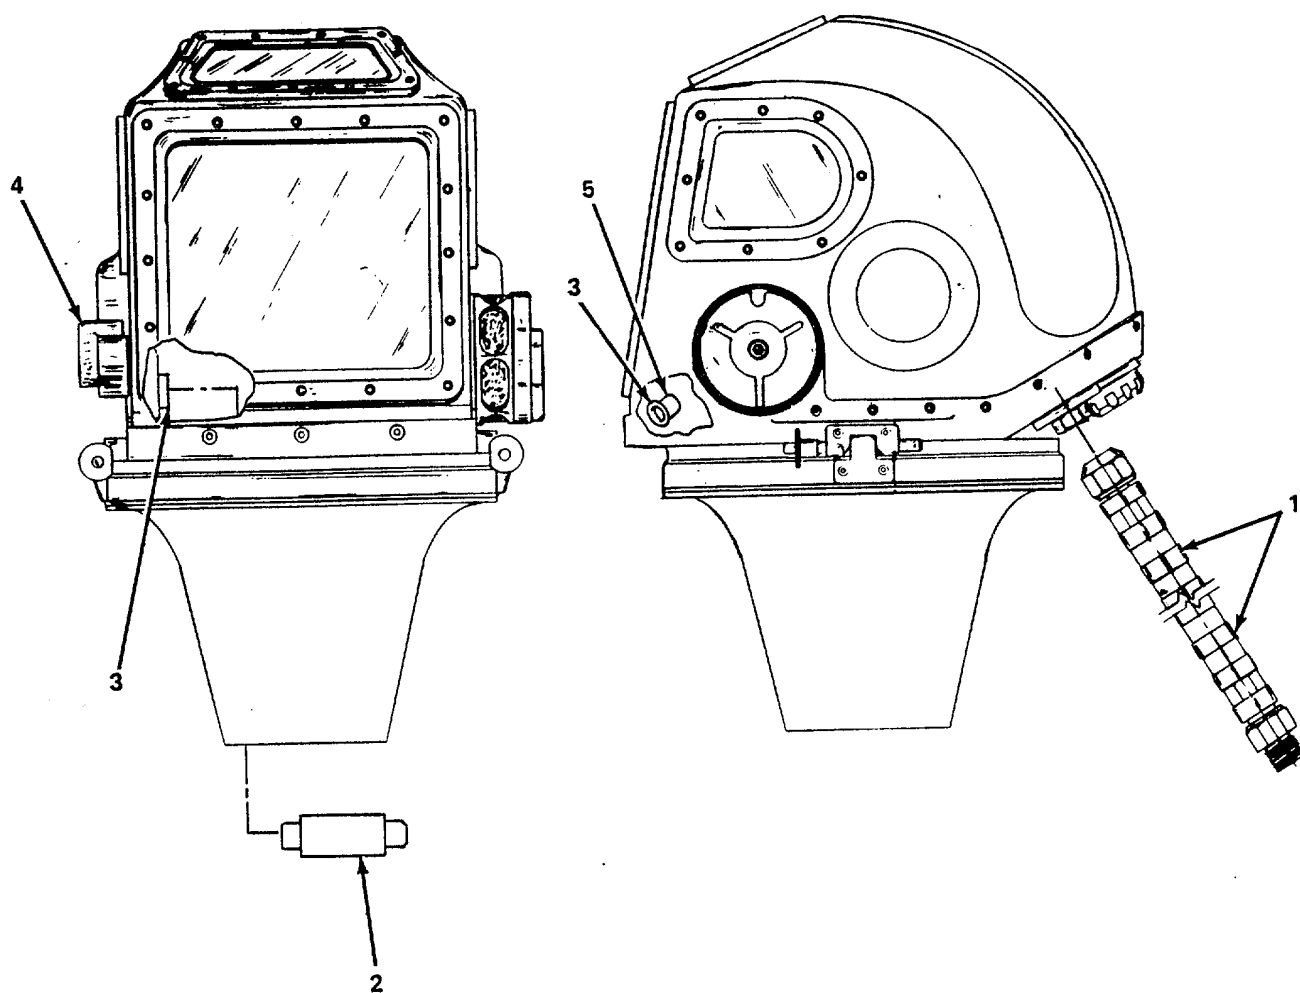

Figure 2-4. Relief Valve Test.
- (12) Open the helmet exhaust valve (4).
- (13) Shut air supply valve (5).
- (14) Remove air supply source and disconnect from air supply whip (2).
- (15) Remove gage (3) from blanking plate quick disconnect (4).
- (16) Remove the blanking plate (1).
- (17) Disconnect air supply whip (2).
- (18) Install protective cap and gasket on air supply adapter.
c. Relief Valve Test (figure 2-4).